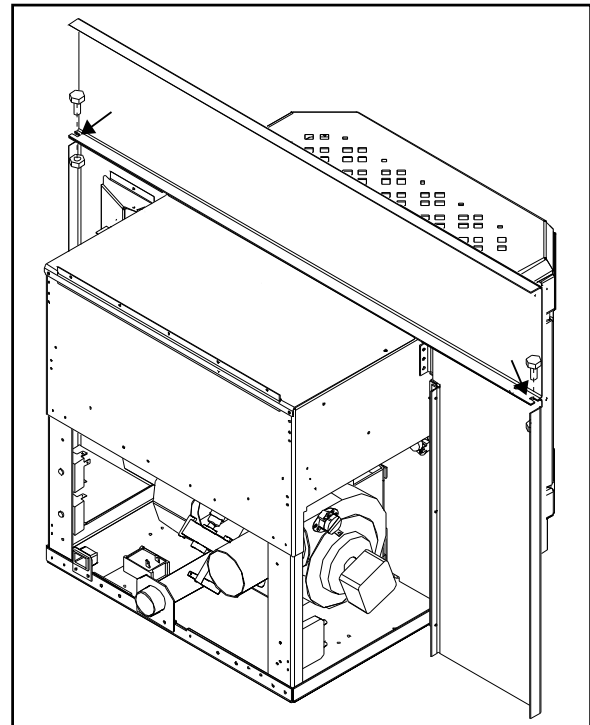

Figure 38: Assembling the Surround Panel, back view.
- Insert each side panel anchor bolt through the top panel into the corresponding side panel holes and tighten using a  $\frac{7}{16}$ " wrench or socket (refer to Figure 38).